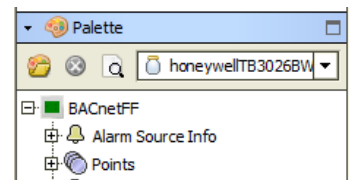

Fig. 25. BACnetFF in Palette TAB
- After adding 'honeywellTB3026BWizard', it reflects in the 'Palette' tab as 'BACnetFF' as seen in Figure 25.